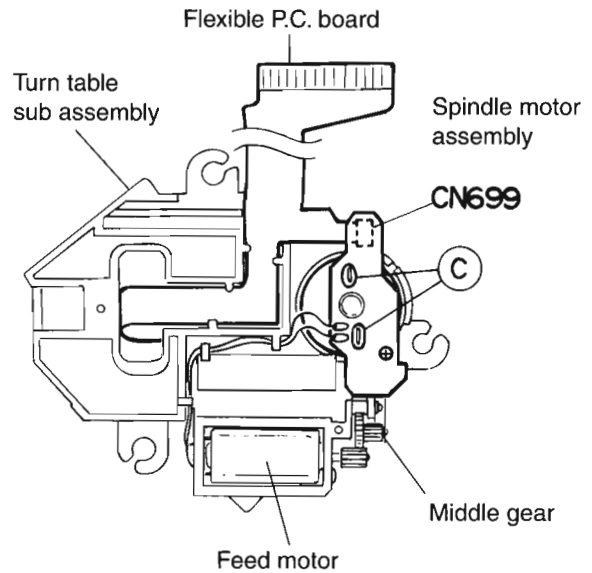

Fig. 17
7. After turning over the CD mechanism, remove the two soldered portions **c** on the spindle motor P.C. board (see Fig. 17).
8. After removing the flexible P.C. board from the connector CN699 on the spindle motor P.C. board, take out the flexible P.C. board from the turn table subassembly (see Fig.17).